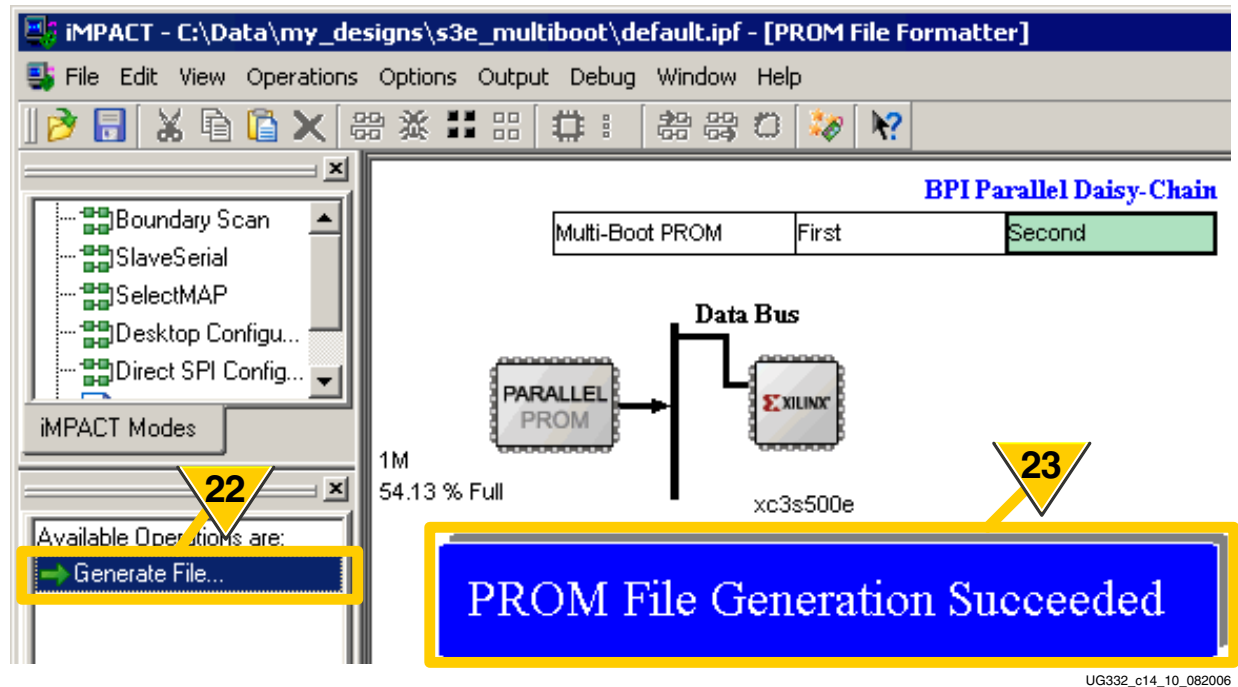

Figure 14-9: Generate the PROM File Using the Specified Parameters
- As shown in Figure 14-9, the iMPACT software reports how much of the PROM is consumed by the FPGA configuration bitstream files. Double-click **Generate File**.